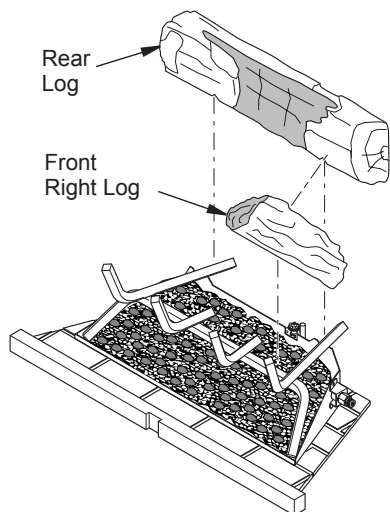

Figure 24 - Installing Logs 1 and 2
1. Place rear log onto grate making sure notches rest over grate (see Figure 24).
2. Place front right log onto front right side of grate with back of log fitting into notch on right front of rear log (see Figure 24).